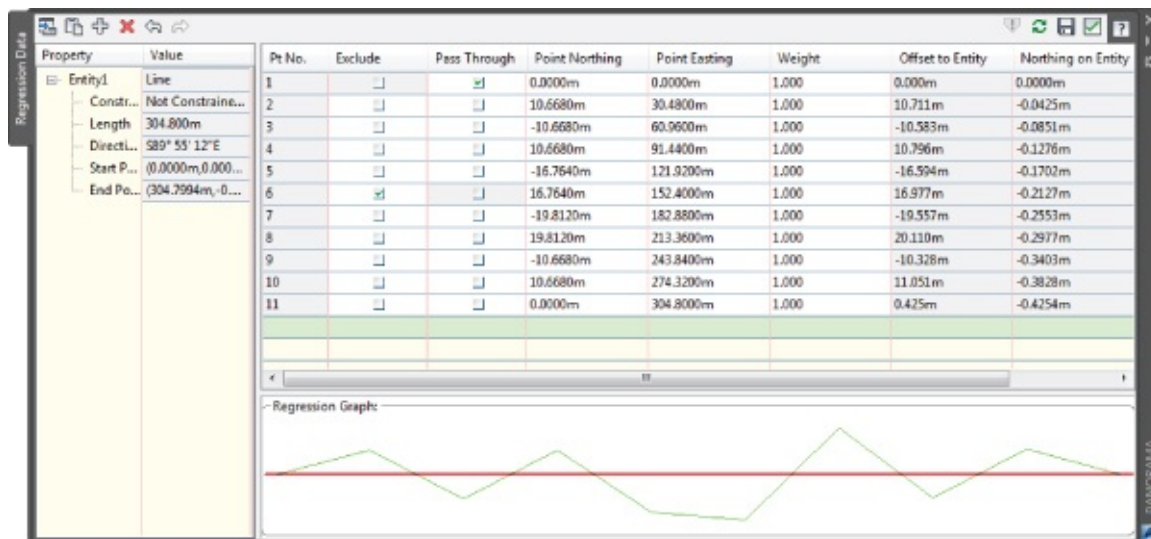

Figure 6.16 Regression Data tab on Panorama
10. Press ↵ to open the Regression Data tab of the Panorama window shown in Figure 6.16.
11. For this exercise you will try to make sure that the line will pass through point 1 and exclude point 6. Therefore, put a check mark in the Pass Through check box for point 1 and one in the Exclude check box for point 6, as shown in Figure 6.16.